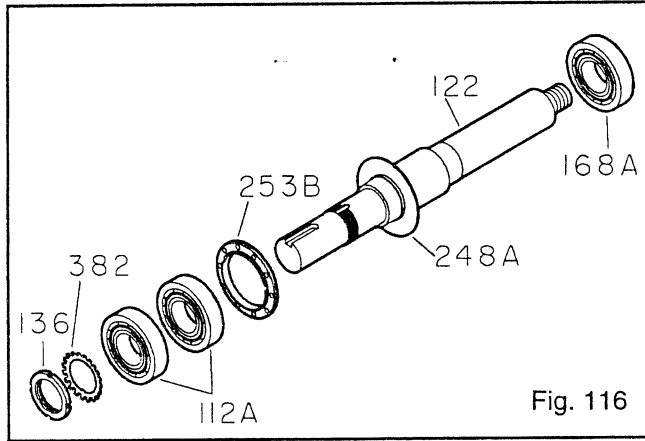

Fig. 116
3. Install oil flinger (248A) on shaft (122) if removed (Fig. 116).